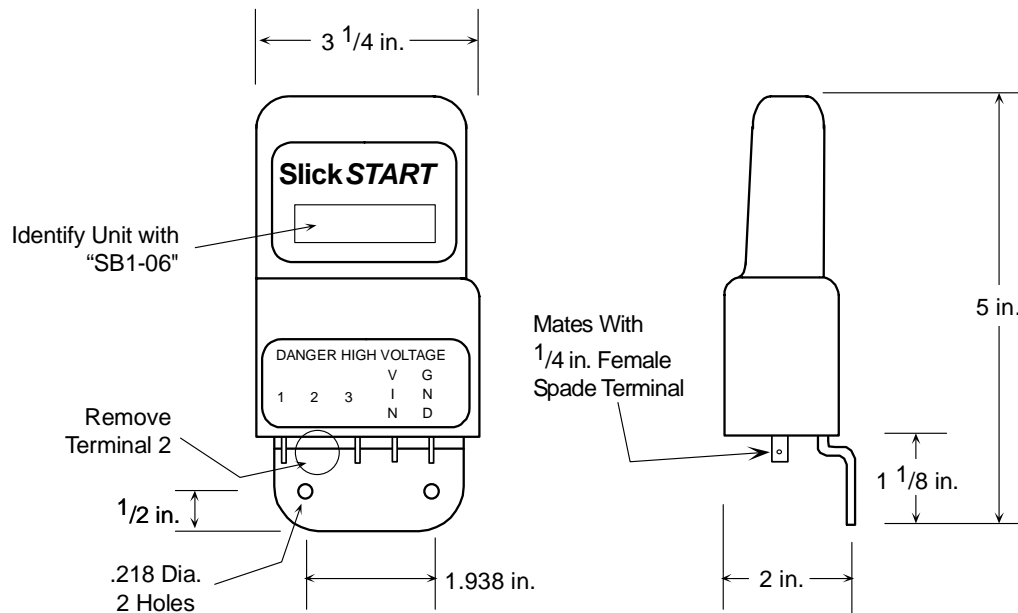

Figure 1
2. If the SlickSTART™ unit is accessible, cut of the #2 pin as short as possible to prevent future use of this pin. See Figure 1. If necessary, remove the SS1001 from the firewall to complete this operation then re-install it.